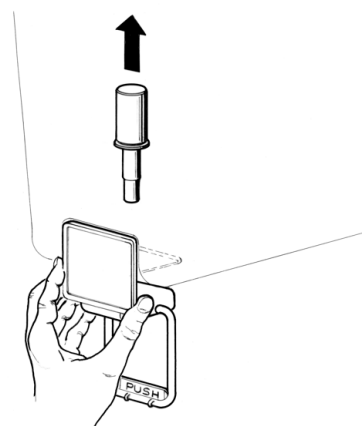

figure 4
**6 Gravity faucet:** extract the piston and then remove the dispensing handle (see figure 4).